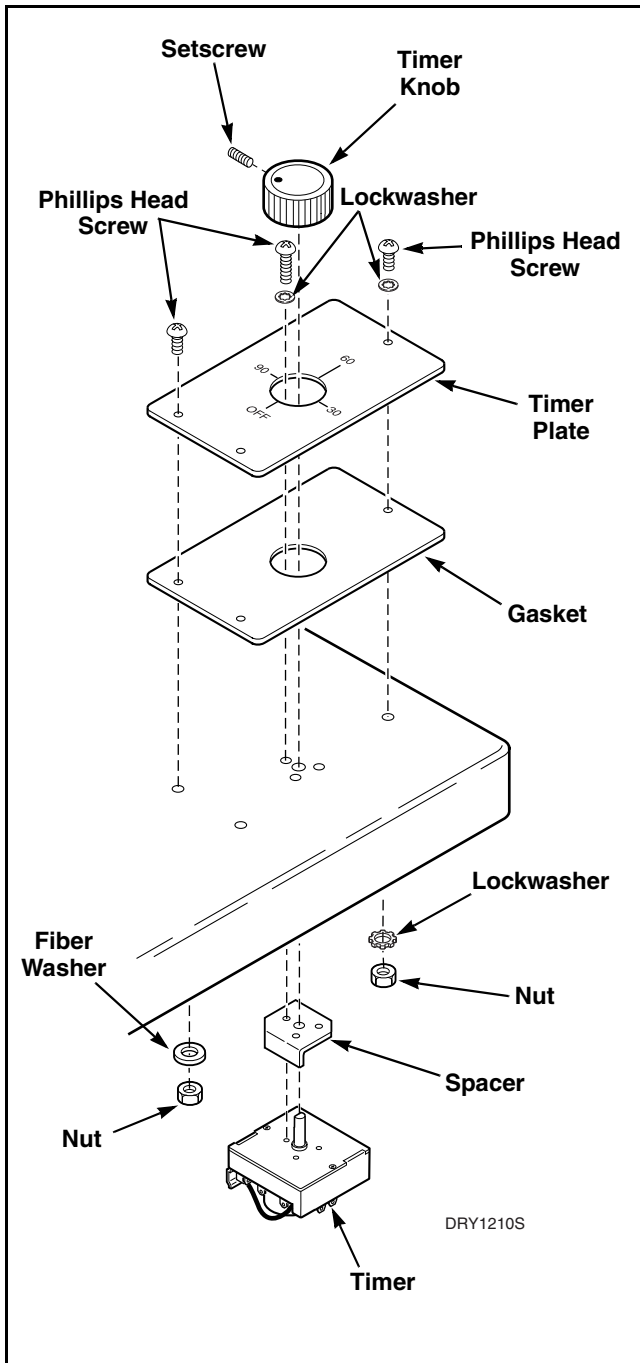
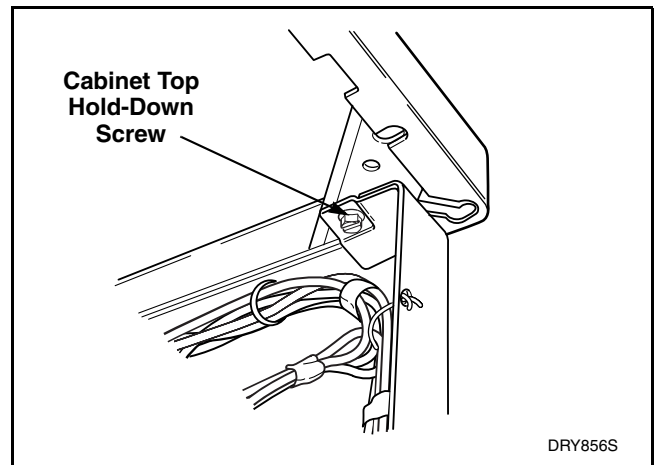

Figure 5
Figure 6
- (1) Refer to *Figure 5* for timer removal.
- (2) Remove front panel. Refer to *Paragraph 13*, steps a, b, and c.
- (3) Loosen setscrew and pull timer knob off shaft.
- (4) Remove two cabinet top hold-down screws, *Figure 6*.
- (5) Lift cabinet top on rear hinges and support it against wall behind dryer.